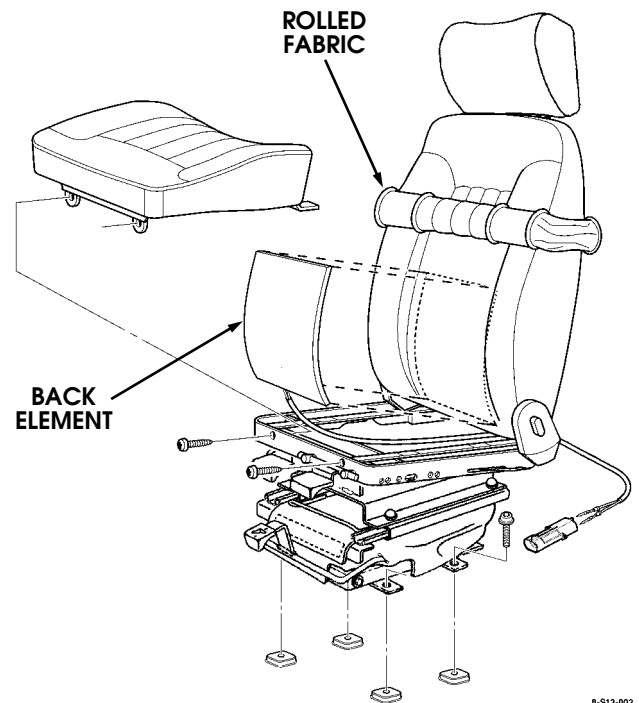

Figure 13-112: Back Element Removal.
11. Remove the heating element from the foam padding of the seat back (Figure 13-112).